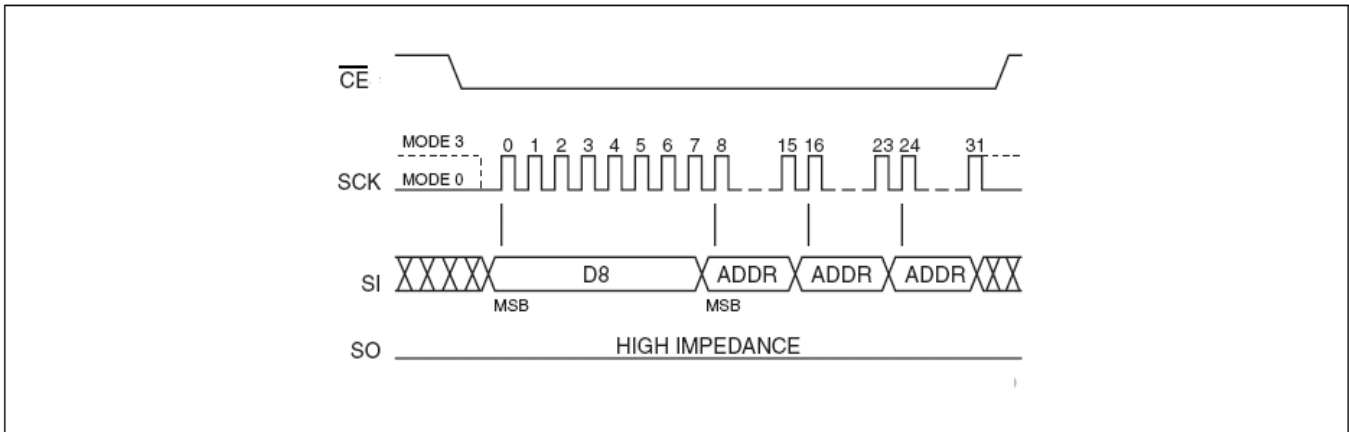

Figure 13: 64K-byte Block Erase Sequence
-A₀]. Address bits [A_{MS}-A₁₆] (A_{MS} = Most Significant address) are used to determine the block address (BA_x), remaining address bits can be V_{IL} or V_{IH}. \overline{CE} must be driven high before the instruction is executed. The user may poll the Busy bit in the Software Status Register or wait T_{BE} for the completion of the internal self-timed Block Erase cycle. See Figure 13 for the Block Erase sequence.